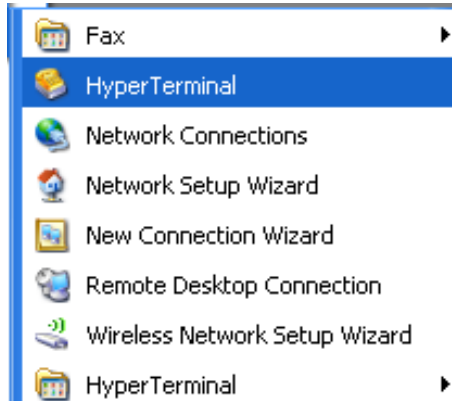

Figure 12: Hyper Terminal Selection Screen
Step 1: The path of HyperTerminal communication tool is Programs/Accessories/Communications/HyperTerminal as shown in Figure 12.